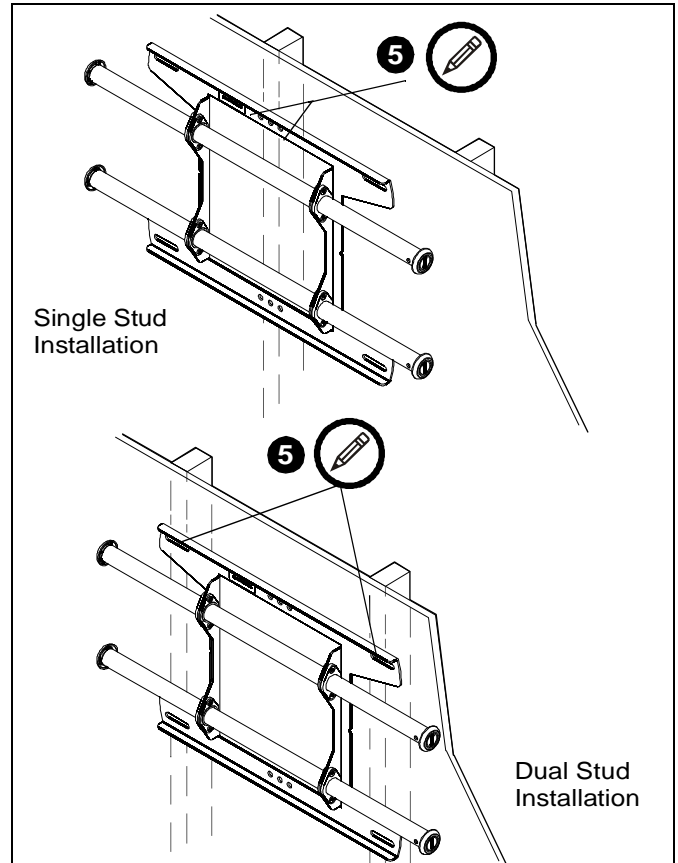

Figure 2
5. Using a level, mark the wall on each stud to attach the mount through the upper mounting slots. (See Figure 2)
**NOTE:** The CH-SMTAU may be attached through the mounting slots on dual studs, or through the center mounting holes on a single stud. (See Figure 2)